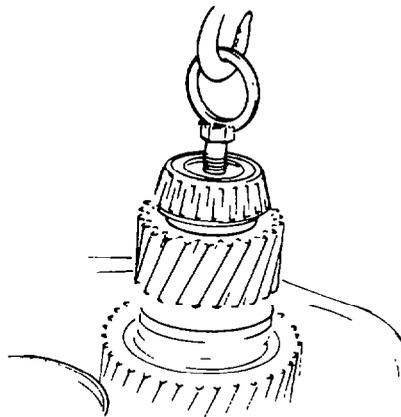

Fig. 236 — Removing Countershaft Assembly
- ab. Remove the countershaft rear bearing retaining bolt (left-hand thread) and clamp plate. Insert and eye bolt in the retaining bolt hole and with the aid of suitable lifting equipment remove the countershaft assembly (see fig. 236).